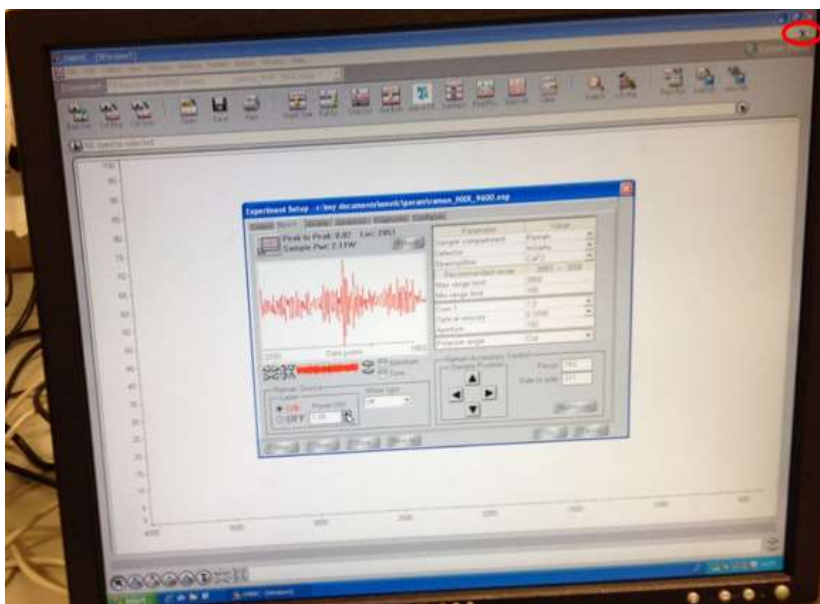

Figure 8. FT Raman software window. You can see the close button of the experiment window in a red circle.
- After the scans have completed another pop-up will prompt you to saying that data collection is complete. If you are happy with the spectrum you see you do not need to wait until all the scans are done, you stop the acquisition and close the first grey window, not the software (Figure 8, red circle).